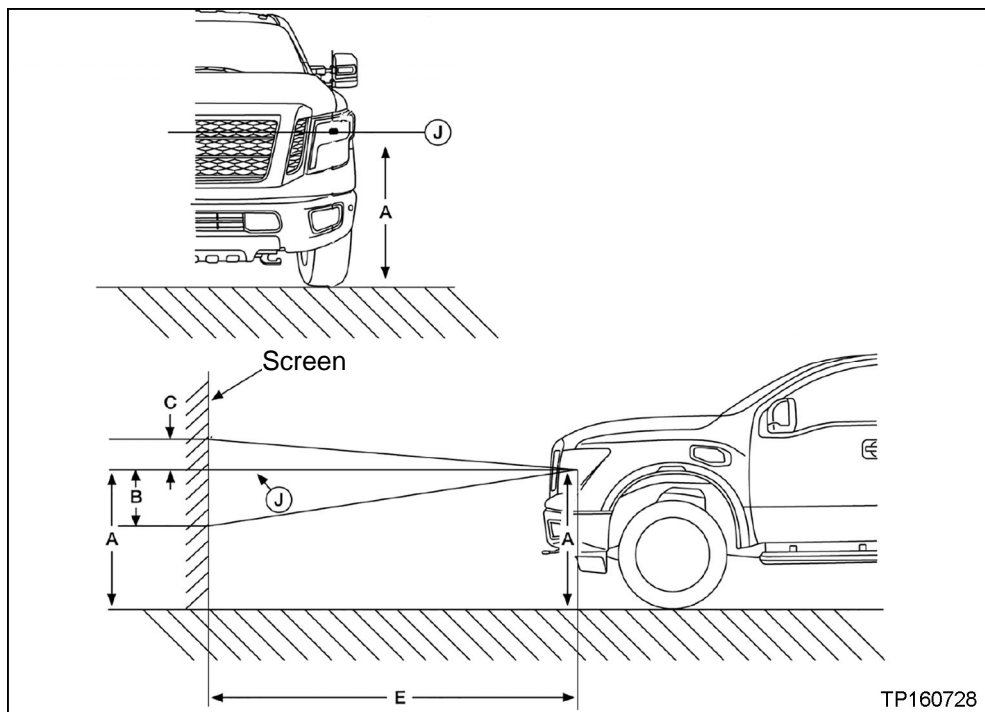

Figure 1
1. Place the vehicle 7.6 m (25 ft) from the screen (see dimension **E** in Figure 1).